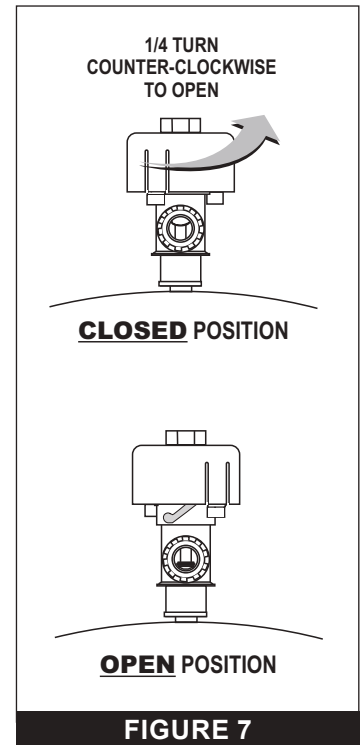

FIGURE 7
2. Open the Manual Air Relief Valve by turning the top of the valve 1/4 turn counterclockwise, until it snaps into the full open position. See **FIGURE 7**.